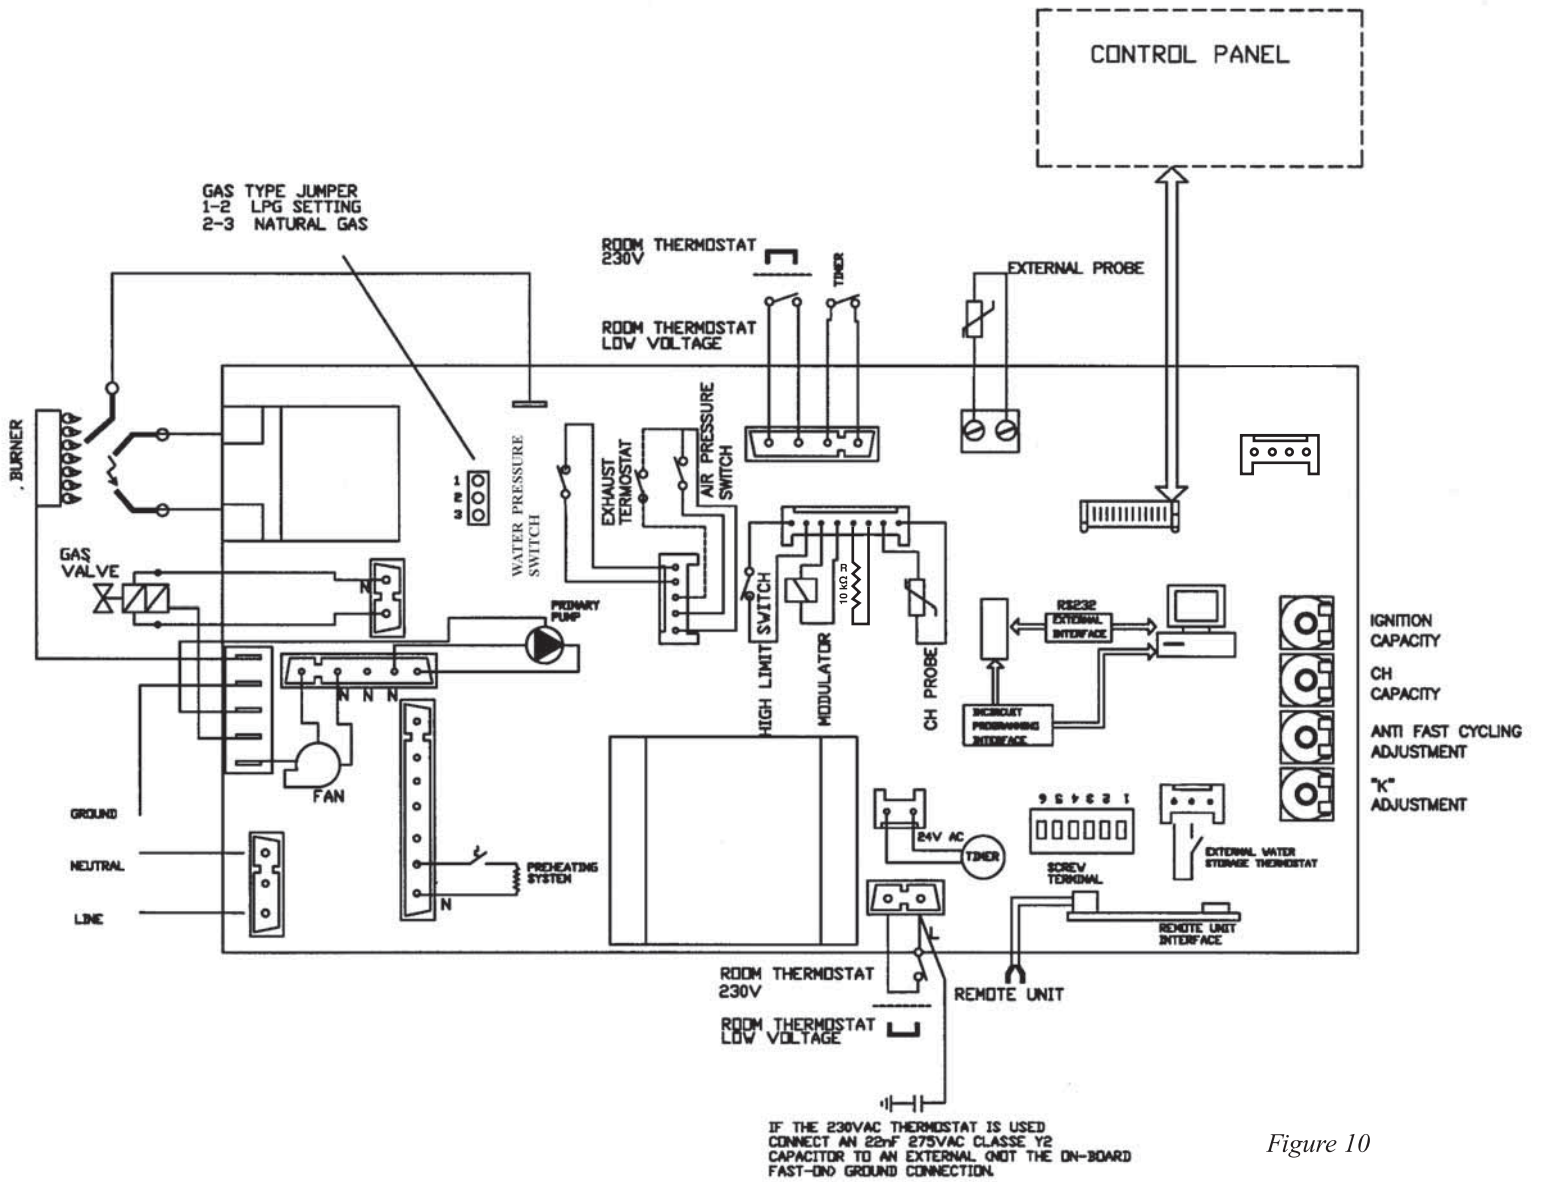

Figure 10
9.7 On connecting the mains electrical supply to the boiler, it is essential to ensure that electrical safety checks for earth continuity, earth resistance, polarity and short circuit are carried out prior to making the final connection. A diagram of the boiler's electrical circuit is given as *figure 10*.